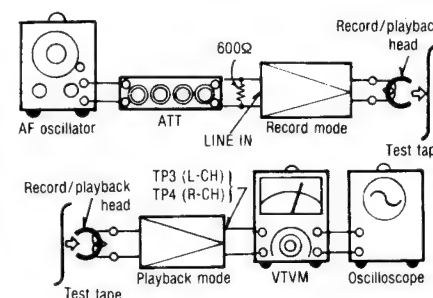

Fig. 17
- Test equipment connection is shown in fig. 17.
- Repeat from step (2).